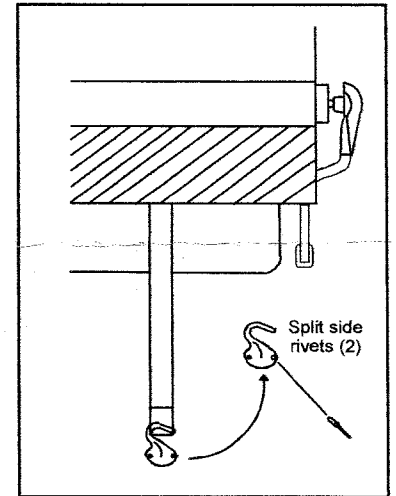

Figure 4
8. Extend the slideout room fully. Pull the awning fully open with the strap. Slip the hold down hook into the **Awning Fabric Loop** of the pull strap and swing the hook casting to the vehicle so that the strap is vertical and the fabric over the slideout is taut. Mark the position of the hook so that the 2 mounting holes are level. Drill 13/64" or #8 holes and attach the hook with 3/16" X 3/4" expanding rivets. (Fig. 4) Fill the holes with silicone sealer before riveting.